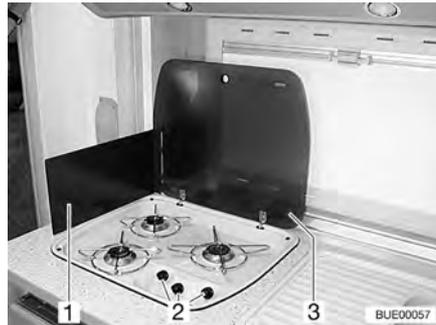

Fig. 150 Gas cooker
- Open the gas cooker lid (Fig. 150,3).
- Fold out or set up the flame protection (Fig. 150,1), depending on the model.
- Turn the control knob (Fig. 150,2) on the burner you wish to use to the ignition position (large flame).